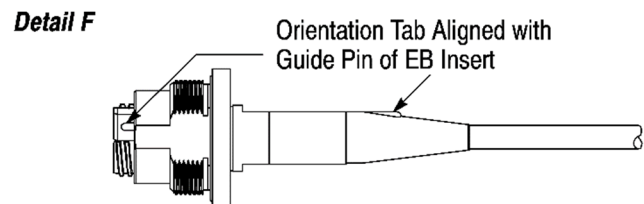

Figure 14
21. Apply the O-ring grease to the front and back and to the outside diameter of the cable seal. Also, apply the O-ring grease around the cable jacket between the cable seal and the washer. See Figure 14, Detail A.
22. Apply several drops of the threadlocker to the threads of the housing. See Figure 14, Detail A.
23. Apply a *thin film* of the O-ring grease to the inside edge of the extension (this is necessary to prevent damage to the O-ring of the housing). See Figure 14, Detail B.
24. Slide the extension over the collet nut, and thread the extension onto the housing. Using the 16-mm open-end wrench, tighten the extension to a torque between 4 and 6 N·m. See Figure 14, Detail B.
25. Apply the instant adhesive completely around the cone of the extension. See Figure 14, Detail C.
26. Slide the boot over the cone of the extension until it is tight against the shoulder of the extension. See Figure 14, Detail D.
27. Immediately rotate the boot so that the orientation tab is aligned with the top of the bench-mount assembly fixture. See Figure 14, Detail D. Remove any excess adhesive.
28. Remove the connector assembly from the bench-mount assembly fixture and verify that the orientation tab of the boot is aligned with the guide pin of the EB insert. See Figure 14, Detail F. If not, rotate the boot until it is aligned.